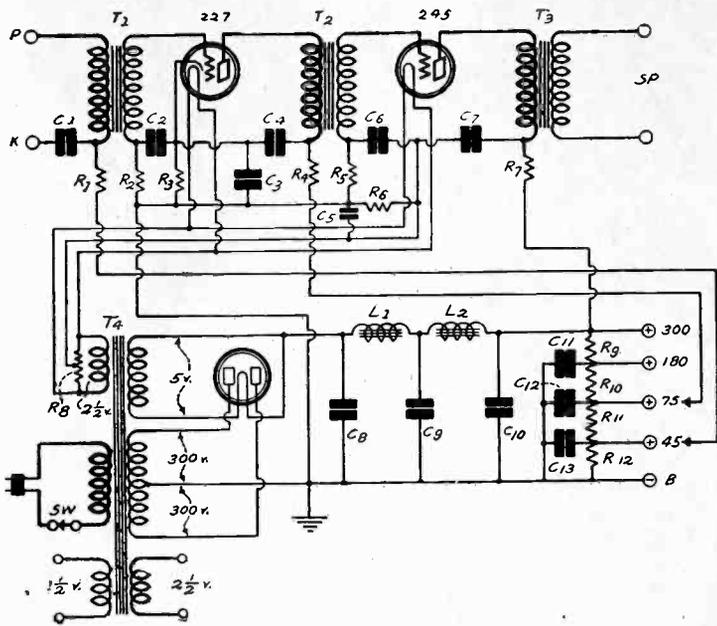
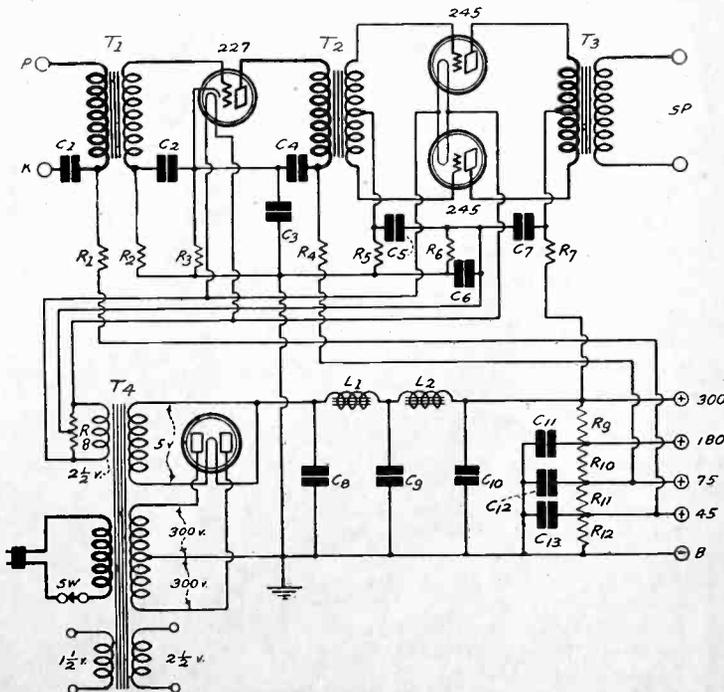

FIG. 97
FIG. 98
A COMPLETE AMPLIFIER SIMILAR TO THAT IN FIG. 97 EXCEPT THAT THE OUTPUT STAGE IS PUSH-PULL
In Fig. 97 is shown a two-stage, transformer-coupled amplifier together with a suitable B supply. The circuit contains one 227 type voltage amplifier, one 245 type power amplifier and one 280 type rectifier.
In Fig. 98 is given a two-stage, transformer-coupled amplifier in which the output stage is push-pull. The power supply circuit is the same as that for the single-sided circuit in Fig. 97, and all the parts are also the same, except as noted in the list of parts.
The circuit in Fig. 98 will draw nearly twice as much current from the power supply as that in Fig. 97. Hence it is to be expected that the output voltages will be slightly lower, since there will be a greater drop in the rectifier tube and the filter coils. This, however, does not prevent the push-pull circuit from giving greater output and less distortion than the single-sided circuit. With the same voltages applied the push-pull is capable of about four times as much undistorted output as the single-sided circuit, and the voltages at worst will be only a few per cent lower.
While an amplifier employing two 245 tubes in push-pull in the final stage will give more volume than can be used in any home with comfort, there are places where a much greater output is desirable. For example, in a small dance hall, a restaurant, a small auditorium, or picture house, the circuit shown in Fig. 98 may not give sufficient undistorted sound to reach everybody. The same applies to small outdoor assemblies.
Note that the plate lead resistors have been omitted from the two push-pull stages in this amplifier. The reason for the omission is that in a push-pull stage which is well balanced there is practically no signal current in the common plate lead and therefore there is very little feedback. But it may happen that the tubes are considerably different and that motorboating or appreciable distortion will occur. In that event the resistors should be used. R7 in Fig. 98 shows how the resistors should be connected relatively to the by-pass condenser C7 or C4. R4
- The following parts apply to Fig. 98